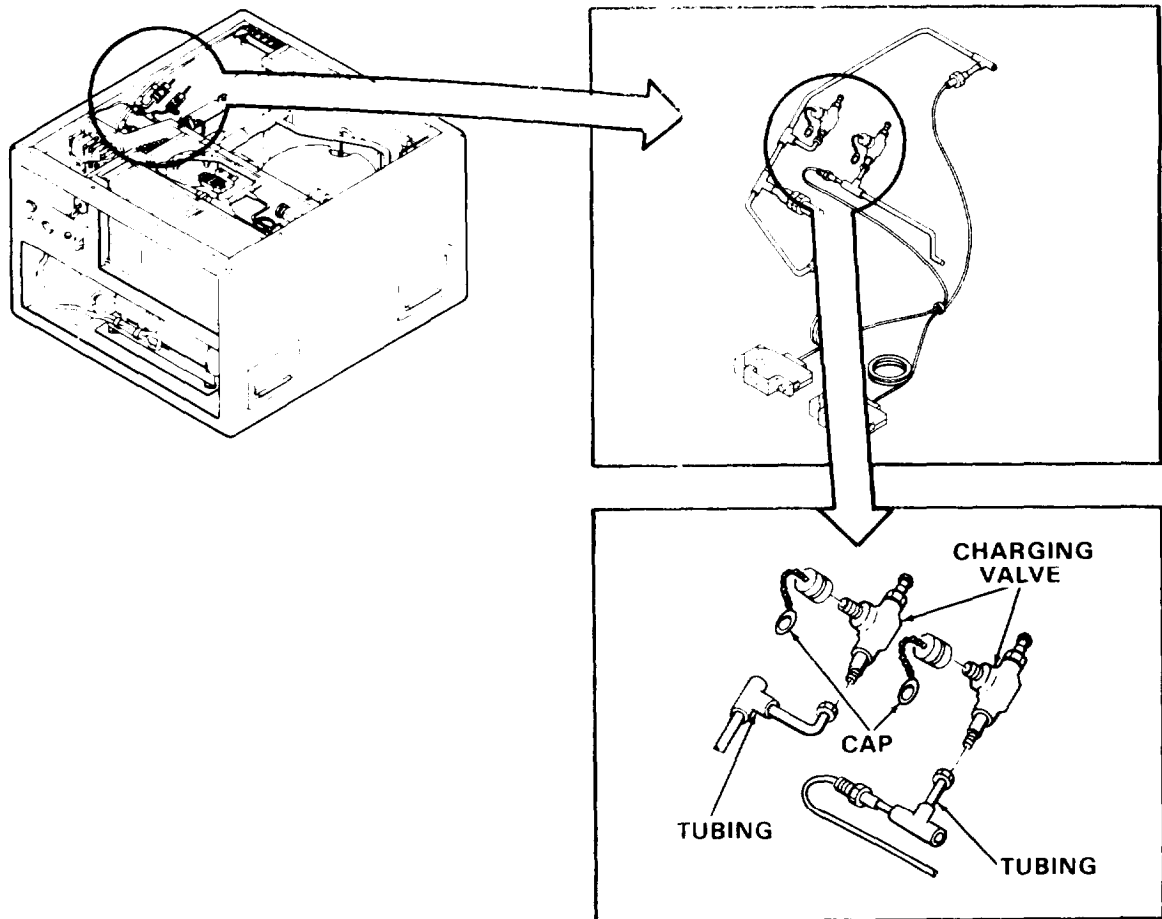

Figure 5-1A. Service Valves
Refer to figure 5-1A and disconnect the service valve flare nuts.
- (1) Refer to figure 5-1A and mount service valve.
- (2) Attach refrigerant line flare nut to service valve.
- (4) Refer to figure 5-1A and disconnect the service valve flare nuts.
- (5) Refer to paragraph 6-3 and leak test the system.